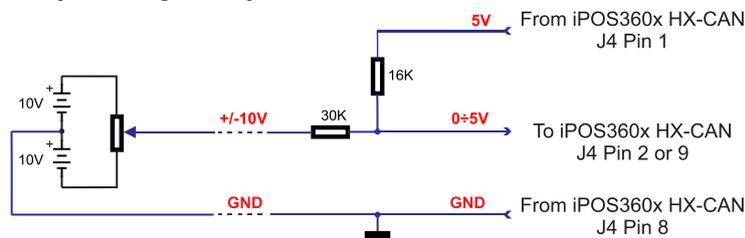

Figure 3.8. +/-10V to 0-5V adapter
**Remark:** Default input range for analog input is 0÷5 V for ANLG. For a +/-10 V range, see Figure 3.8.